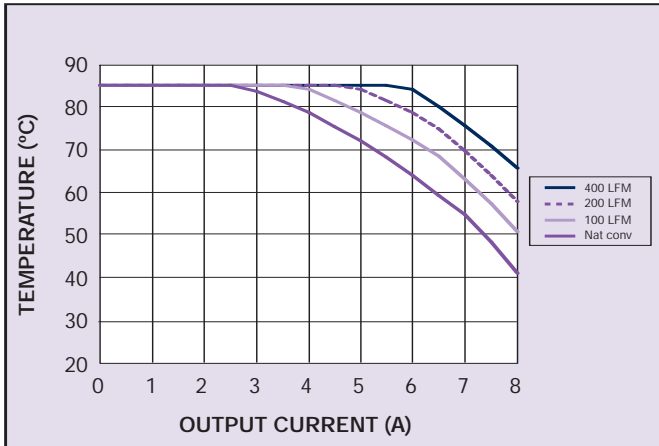

Figure 1 - Safe Operating Area
- See Figures 1, 2, 3 and 6 for safe operating curves.